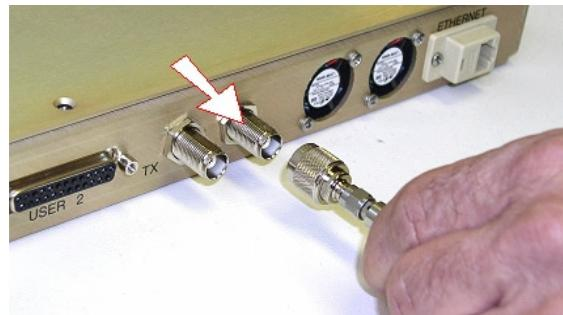

Figure 5. 1UR Receive Connection
- 1) Connect the RF Receive Cable to the 1U radio rear panel RX port, as shown in Figure 5.